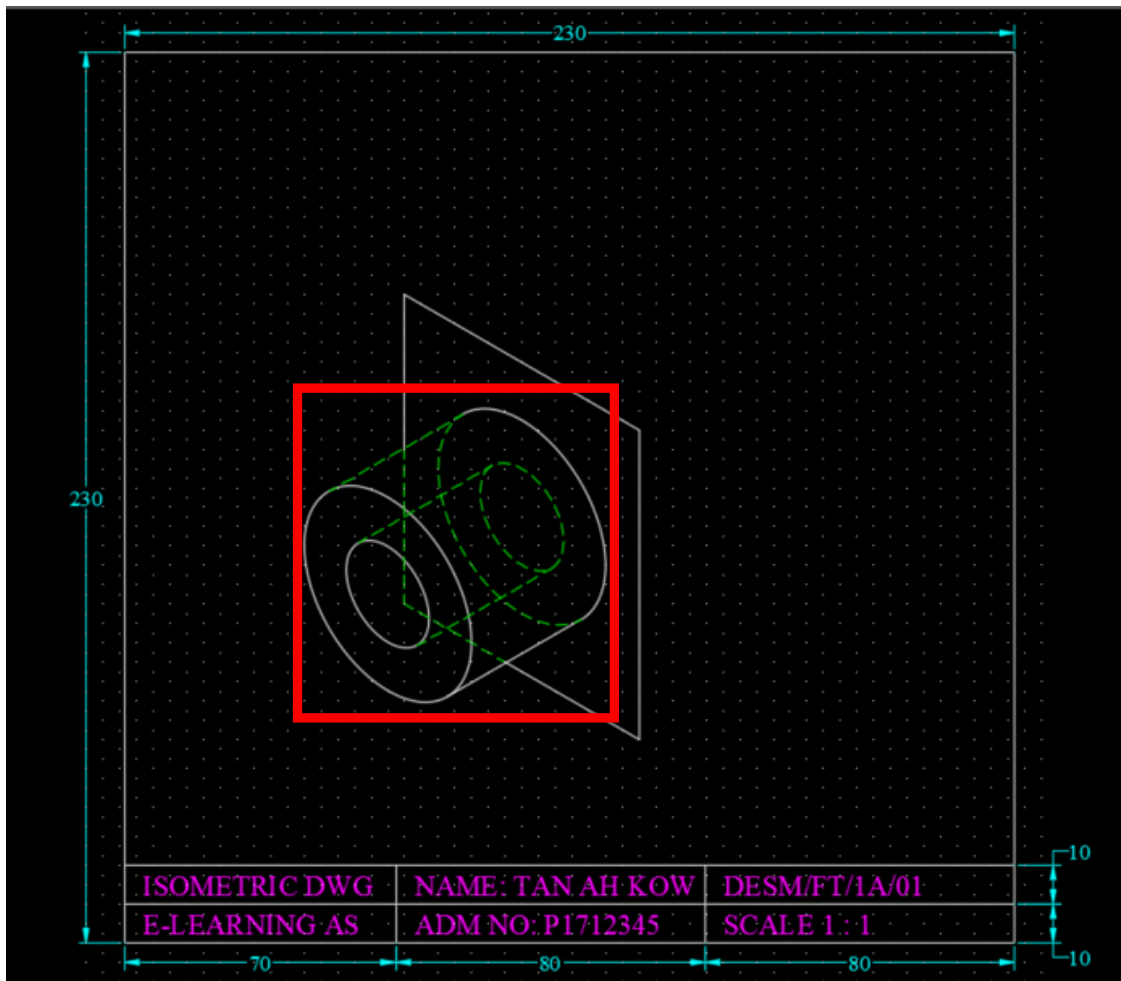

FIG 12
13. Select those lines including half & full isocircles and convert to hidden lines by inserting into the Layer Hidden (FIG 12).